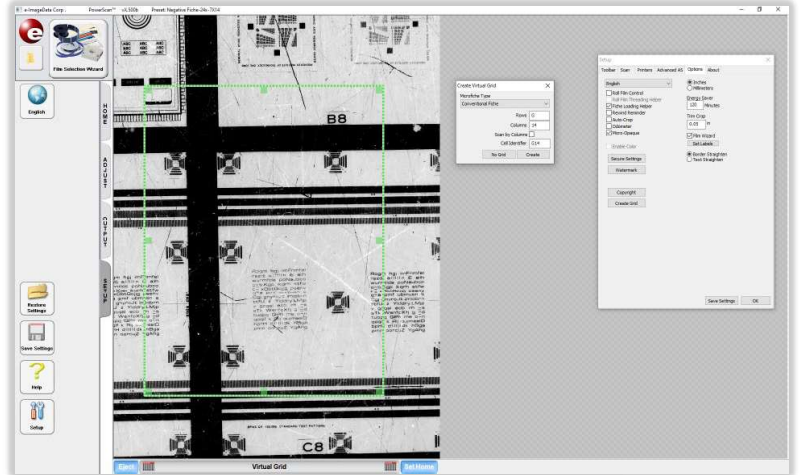

Figure 77
- m. Click the fiche control *Load* button. The AUTO-Carrier will move to the center. *Figure 77*